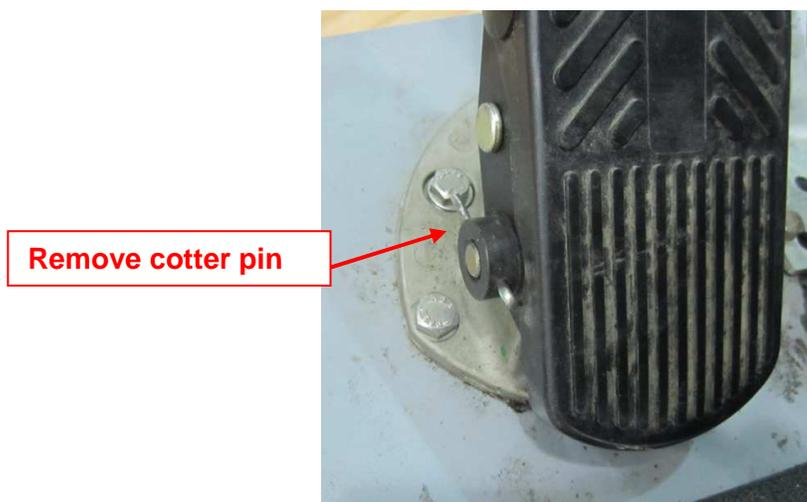

Figure 5: Remove Cotter Pin from Brake Pedal
15. Remove the cotter pin from the brake pedal, see Figure 5. Remove the brake pedal from the mount, set the hinge pin and pedal aside for re-use, discard the cotter pin.